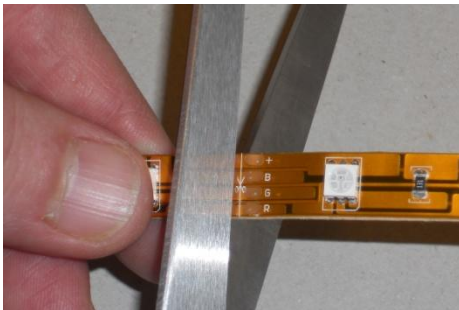
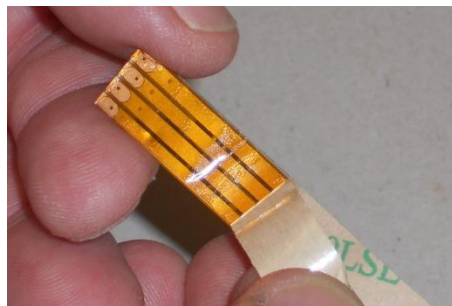
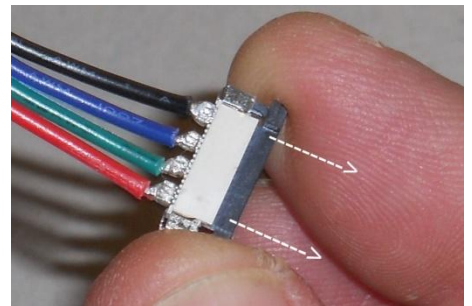

Figure 1
Figure 2
Figure 3
- 2) **Cutting the RGB LED ribbon to desired length:** Using scissors the RGB LED ribbon can be cut on the clearly marked cutting line which is located every 3 LEDs except where the solder drops are located on the ribbon (*Fig. 1*). The solder is located every 19-1/2 inches on the ribbon. Making a cut on the solder or anywhere else on the ribbon except on the cutting line will damage the ribbon and it will not operate.
- 3) **Connectors:** Included in each package of RGB LED ribbon are (3) RPS-24 Ribbon to RGB Controller connectors and (1) RPS-24 affixed to the start of the reel of ribbon. RTR series Ribbon to Ribbon Connectors are sold separately.
**Connecting the RPS series ribbon to RGB Controller connectors and RTR series ribbon to ribbon connectors to the cut piece of RGB LED ribbon:** Peel back a small length of the brown paper backing from the end of the ribbon that will be attached to the RPS/RTR series connector; this will expose the 3M adhesive on the back of the ribbon which is used to stick the ribbon to the desired surface (*Fig 2*). Lightly pull back the small black plastic bar from the connector (*Fig 3*). Take the ribbon and fully insert it into the connector making sure that the small black plastic bar on the connector is located on the back, adhesive side of the ribbon (*Fig 4*). **NOTE:** It is very important to make sure the small black plastic bar is located on the back adhesive side of the ribbon as cut lengths of ribbon can be inserted backwards into the connectors causing reverse polarity and the ribbon will not light up. Always keep the ribbon in the same orientation throughout your application. (+) and (RGB) are clearly marked on the ribbon (*Fig 5*). Lightly push bar back into place (*Fig 6*). This will self crimp the connector to the ribbon. The ribbon is now ready to be connected to the RGB controller (LTRGB-CNR).
**MOUNTING RGB LED Ribbon.** Make sure the mounting surface is clean and free from any oil. Beginning at the end of the ribbon, lightly pull the paper backing off (*Fig 2*). This will expose the adhesive on the back of the ribbon. Carefully apply to the surface using as little pressure as possible. When the ribbon is in place apply a small even amount of pressure to the ribbon. **AVOID PUTTING PRESSURE DIRECTLY ON THE LEDs.**